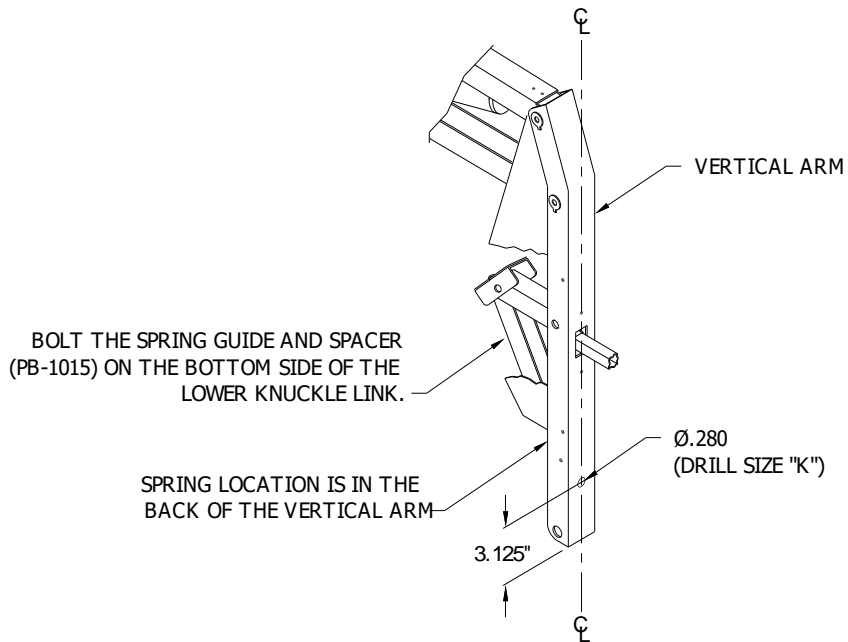

FIGURE 4: HARDWARE LOCATIONS ON K-1200, K-2000, AND K-5000 SERIES LIFTS
- b. **Refer to Figure 4.** Locate mounting hole locations on vertical arms.